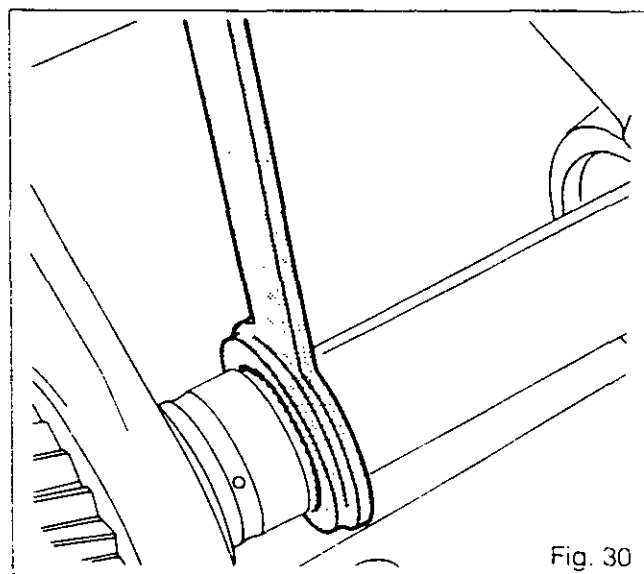
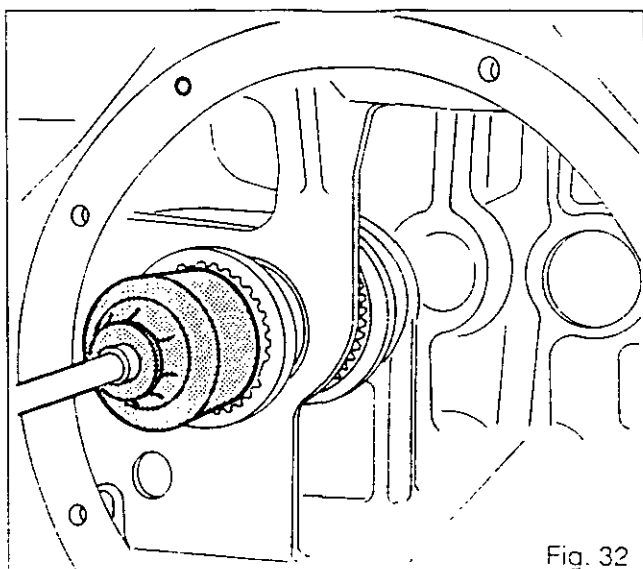

Fig. 30
Fig. 32
- 91. Fit the locking tool MF 458 and the locally made retaining sleeve (Fig.30 and 31).
- 92. Fit the washer (6)
- 93. Using a press, fit the bearing cone (1) on the sleeve (82).
**Note: To shim using formula P1, do not fit the A/B gear train (Fig.32).**
- 95. Fit the bush /81\, the A/B synchromesh (78), the bush (74) and the spur washer /73\ on the shaft.
- 96. Fit nut (68) and tighten to a torque of 80-100 Nm using tool MF 456 (Fig.32).
- 98. Remove tool MF 458 and the sleeve (Fig.30 and 31).
104. Fit tool MF 458 and the locally made-up sleeve (Fig.30 and 31).
120. Remove tool MF 458 and the retaining sleeve (Fig. 30 and 31).
132. Fit tool MF 458 and the retaining sleeve (Fig.30 and 31).